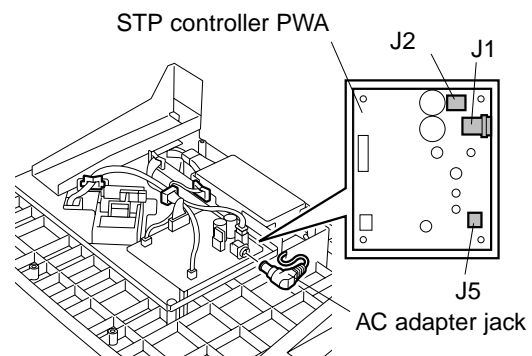

Fig. 6-16
- Remove STP base stay assembly. (See Fig. 6-16 and 6-17)
3. Remove STP base stay assembly. (See Fig. 6-16 and 6-17)